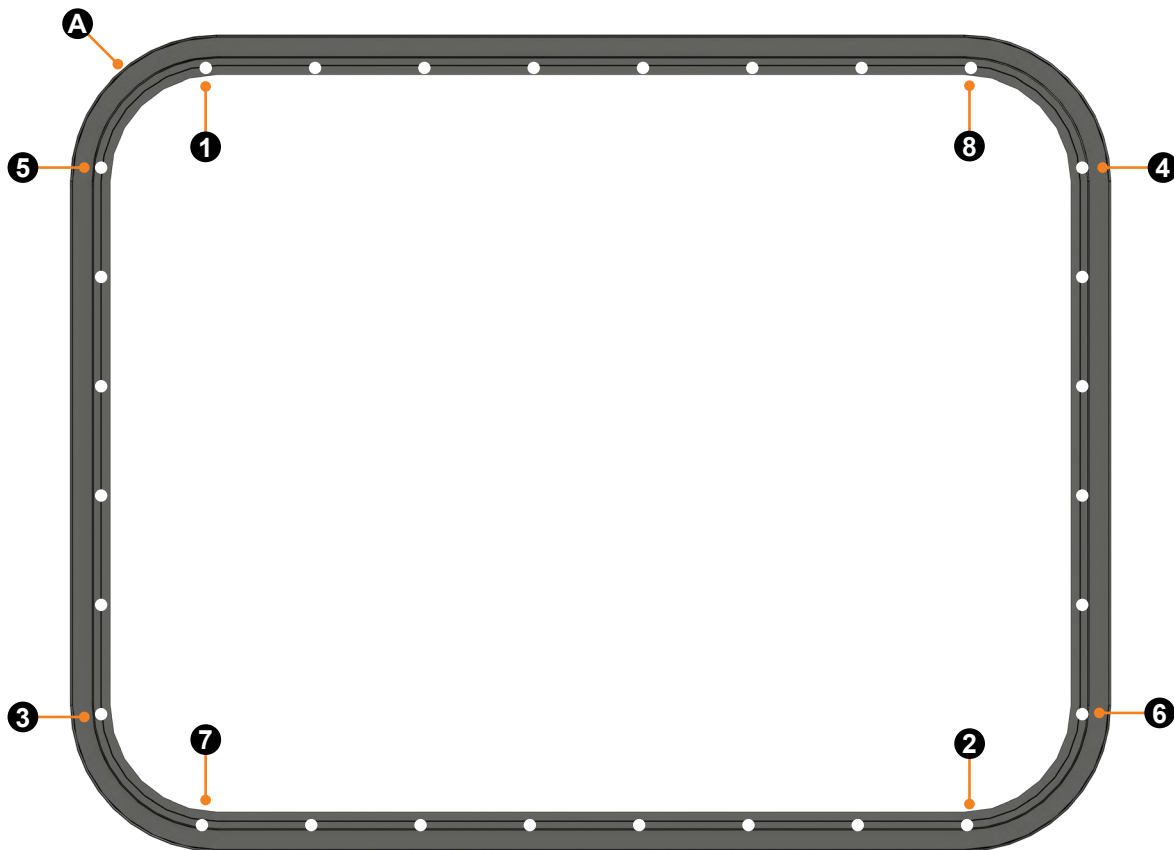

Fig.3
3. Install eight #8 screws following Figure 3 screw pattern (Fig.3, holes 1-8). Partially tighten these screws. Driving the screws all the way can cause a stripped-out or broken screw head.
4. After the eight screws are partially installed, follow the screw pattern (Fig.3, holes 1-8) and completely tighten the screws.